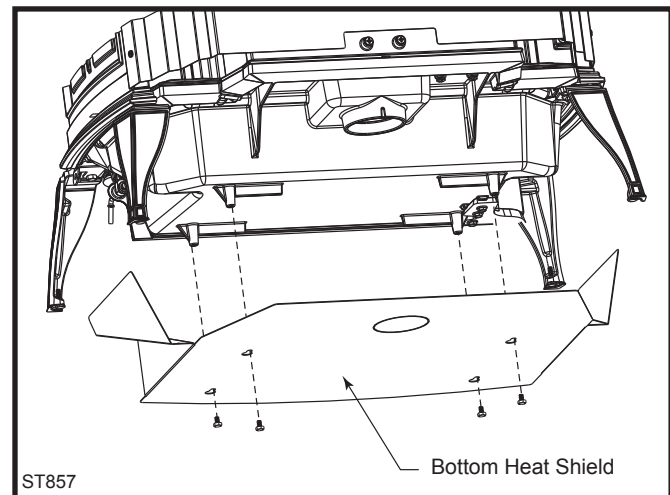

Fig. 20 Attach the optional bottom heat shield.
4. Tighten the four hex head bolts securely after passing all four bolts through the large end of the keyholes and then pulling the shield forward to engage the smaller ends of the keyhole slots. (Fig. 20)